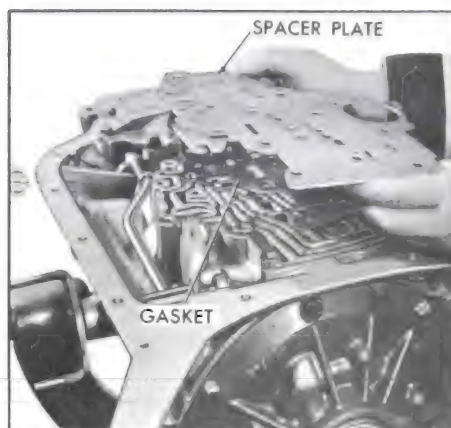

Figure 5-522
7. Remove the control valve assembly spacer plate and gasket. See Figure 5-522.